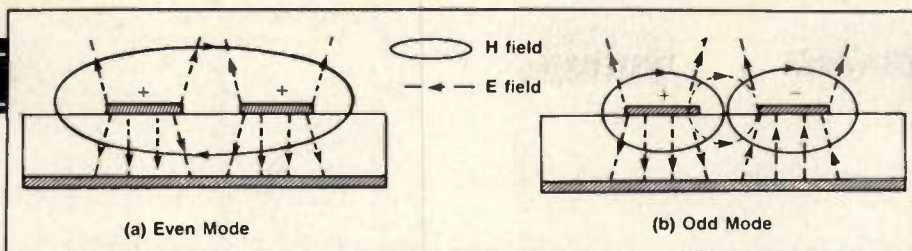
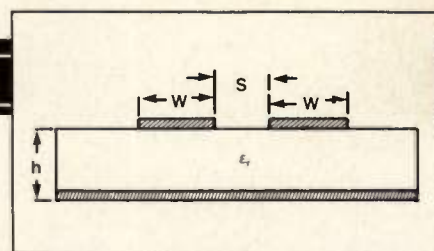

Figure 6. The electric and magnetic field distribution for the (a) even mode (b) odd mode wave excitation in the coupled microstrip lines.
Figure 7. The cross-sectional view of coupled microstrip lines.
4. Parasitic Coupling — This primarily includes parallel microstrip resonator or line coupling, which will cause signal cross-talk and fringing capacitance. The electric and magnetic field line distribution of a quasi-TEM coupled microstrip is shown in Figure 6 and a cross-sectional view of a typical coupled microstrip is shown in Figure 7. The most important electrical characteristics depend on the coupling factor, odd mode and even mode characteristic impedances. The physical spacing between the parallel coupled microstrips can then be determined.